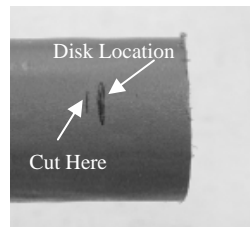

Figure 1
- 1) **Cut cable 0.125" (1/8") behind the 1st disc** using hacksaw (Figure 1). (In order to locate the 1st disc for fire retardant jacket or riser rated cables – gray jacket, insert small ruler or wire and mark location on jacket surface). Ensure that cable is straight for at least 10" from the end. (Tools required: Hacksaw and Small Ruler or Wire)